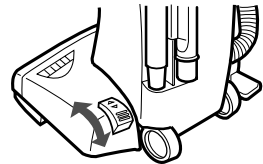

Fig.20
- 2 When cleaning bare floors, slide the selector to the "FLOOR" position. (Fig. 20)